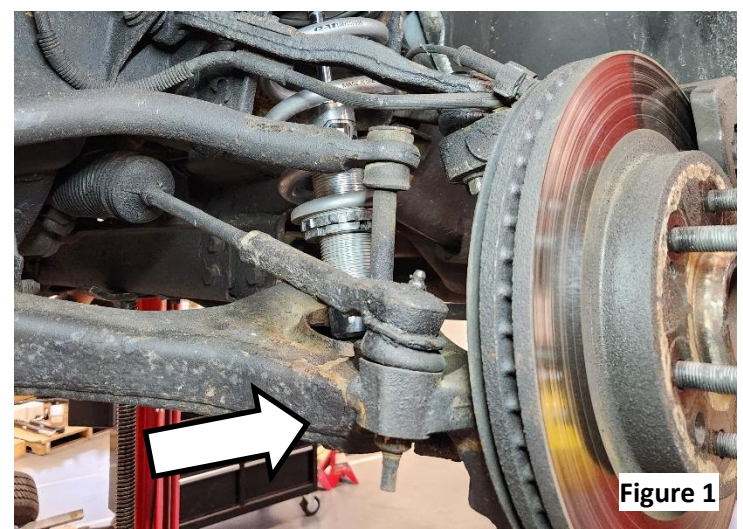

Figure 1
3. Disconnect the outer tie rod end from the steering arm by first removing the cotter pin and castle nut. Then use a tie rod end remover to disconnect the outer tie rod end from the steering arm. **Figure 1**